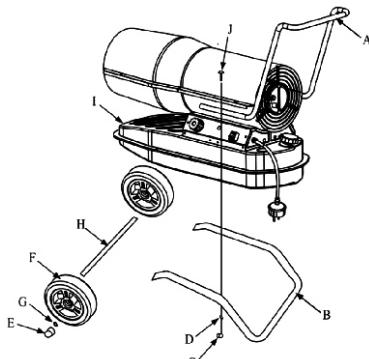

Fig 1
1. To assemble the heater, proceed as follows (see Fig. 1):